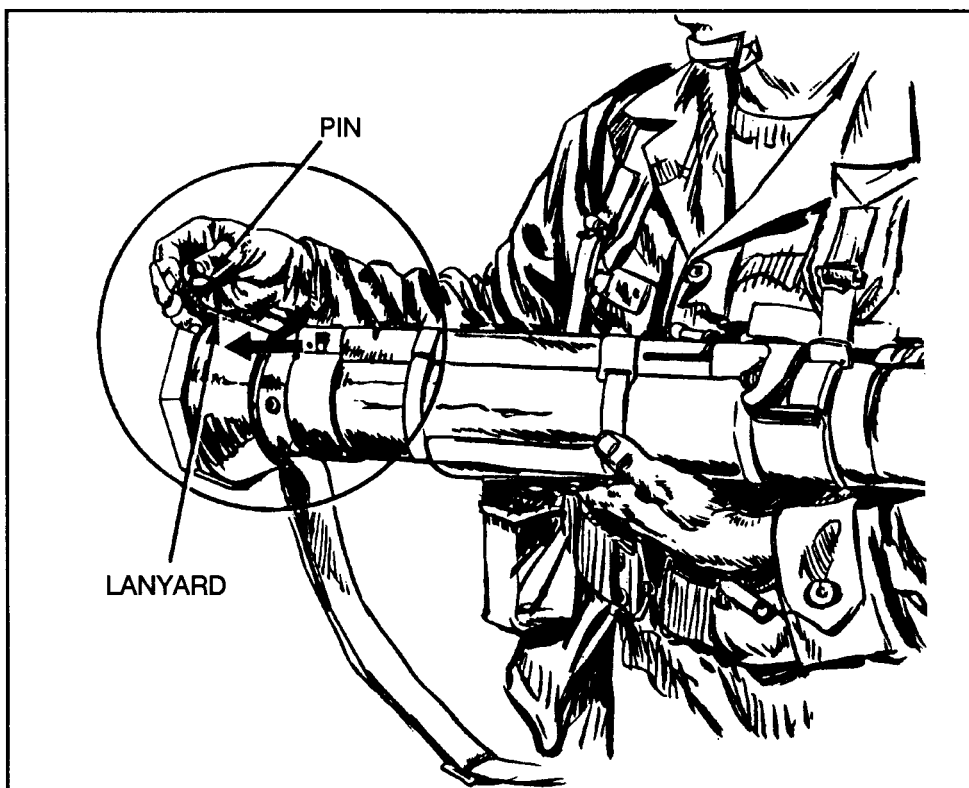

Figure 3-13. Removing the transport safety pin.
b. With your right hand, pull and release the transport safety pin (Figure 3-13). This pin is important— you must reinsert it if you do not fire the launcher. Therefore, unless it is attached to the launcher with a lanyard, you must keep it in a safe place.